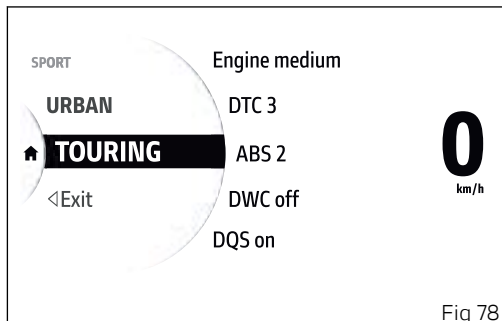

Fig 78
- Press and hold the MODE/ENTER button (3) for a long time.
- The dedicated screen is displayed (Fig 78) where, using buttons (1) and (2), it is possible to scroll through the available Riding Modes and display the parameters with the relevant set values.
- Press the MODE/ENTER button (3) to confirm.